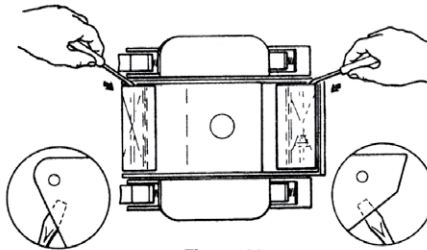

Figure 11
a) Remove the front and rear flaps from your Pool Vac Ultra by inserting a small screwdriver between the flap and the lower body near the pivot point of the flaps (see Figure 11).